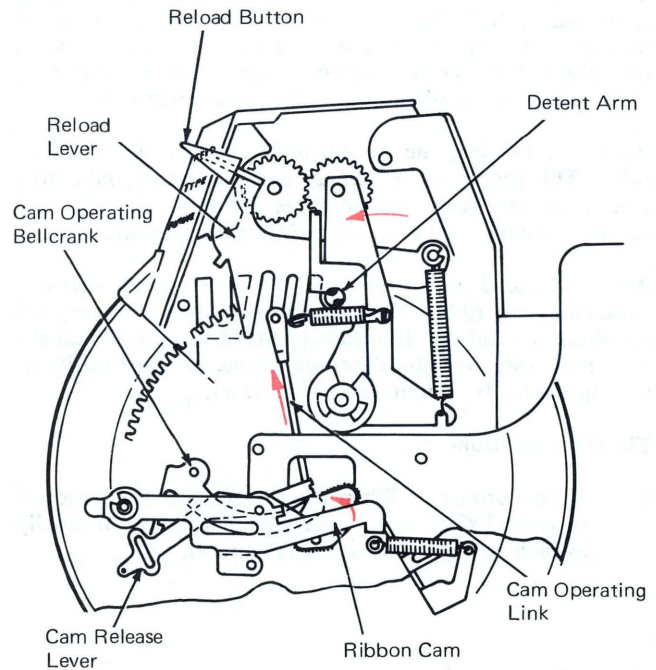

Figure 11 – Feed Mode (Right Side View Level 2 And 3)
3. *Feed Position* – When the reload lever is raised to the “FEED” position, the reload lever through the cam operating bellcrank pulls on the cam release lever. This releases the cam to the power roll for a repeat operation. The ribbon will be rapidly advanced until the reload lever is moved from the “FEED” position (Figure 11). This can be done by manually depressing the reload button or by closing the top cover. An interlock is provided to move the reload button to the type position when the cover is closed.